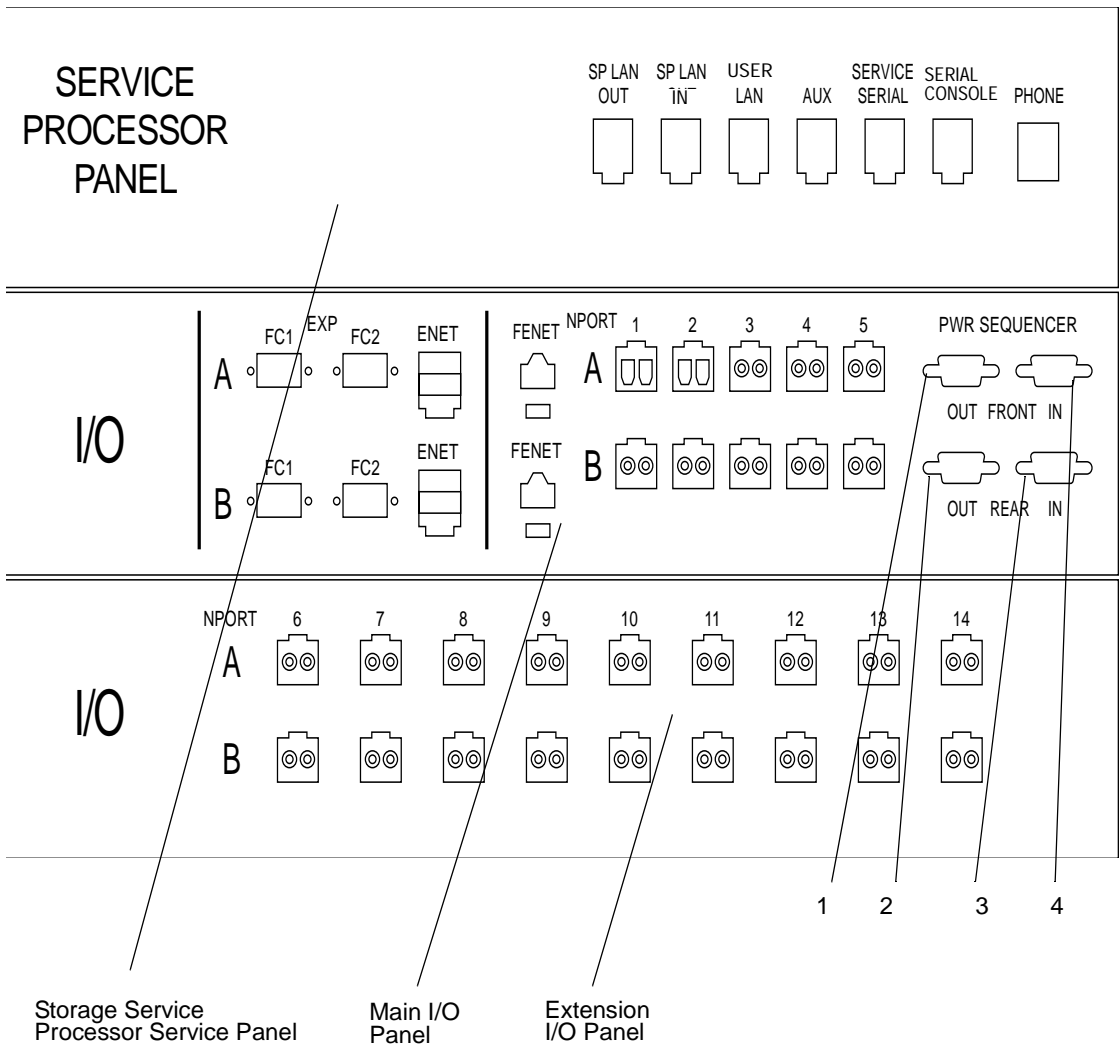
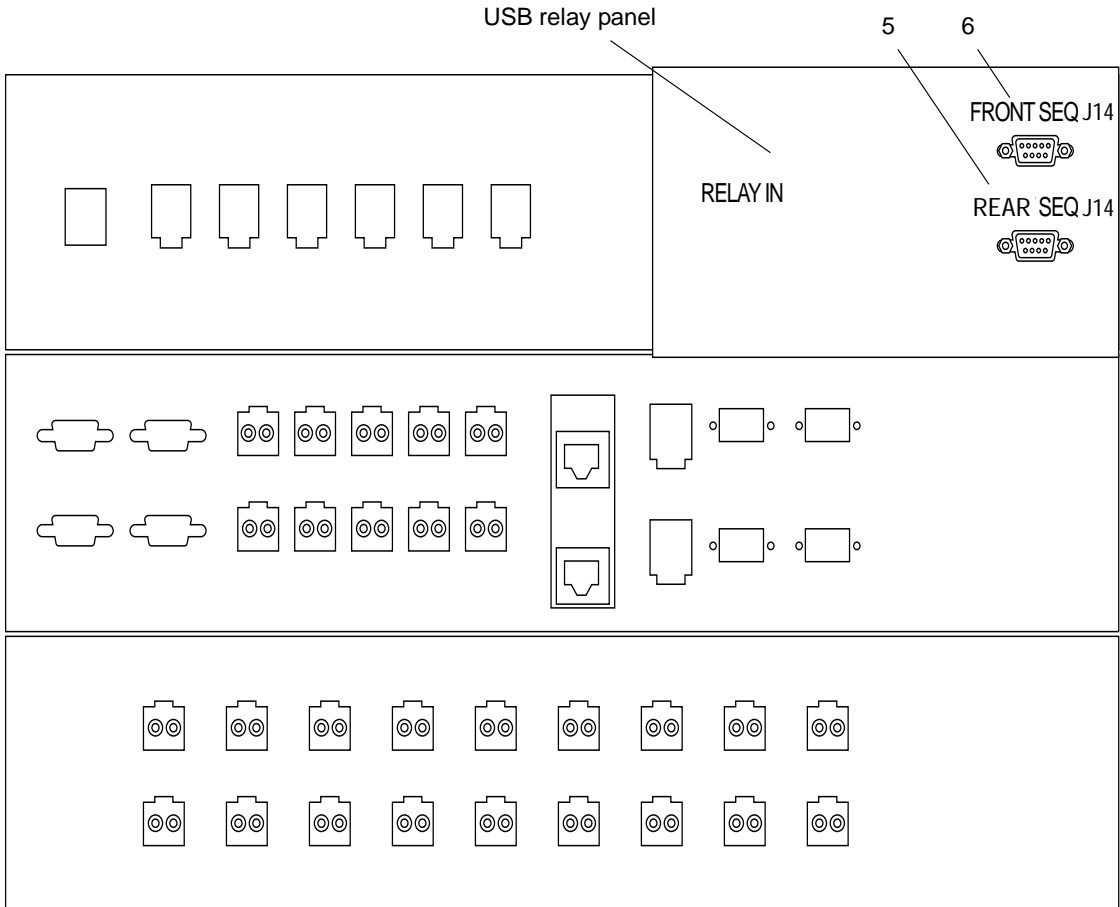

FIGURE 4-12 Front View of the Storage Service Processor Service Panel Connectors
FIGURE 4-13 Back View of the Storage Service Processor Panel Connectors
FIGURE 4-12 shows the front view of the Service Processor Panel and its connections to the Storage Service Processor, the Storage Service Processor accessory tray, and the Sun StorEdge 6020 arrays.
FIGURE 4-13 shows the back view of the Storage Service Processor panel. The two connections are in the upper right corner.
TABLE 4-6 shows the cabling information for the Storage Service Processor panel. Refer to FIGURE 4-13 and TABLE 4-7 to locate the cable designation in the first column of TABLE 4-6.
6. Identify and label the location of each cable on the inside of the service panel through the placement shown in FIGURE 4-12 and FIGURE 4-13.
9. **Identify the location of each cable on the outside of the service panel by the placement shown in FIGURE 4-12 and FIGURE 4-13 along with TABLE 4-6 and TABLE 4-7.**
See FIGURE 4-13 for the location of the J14 connections.